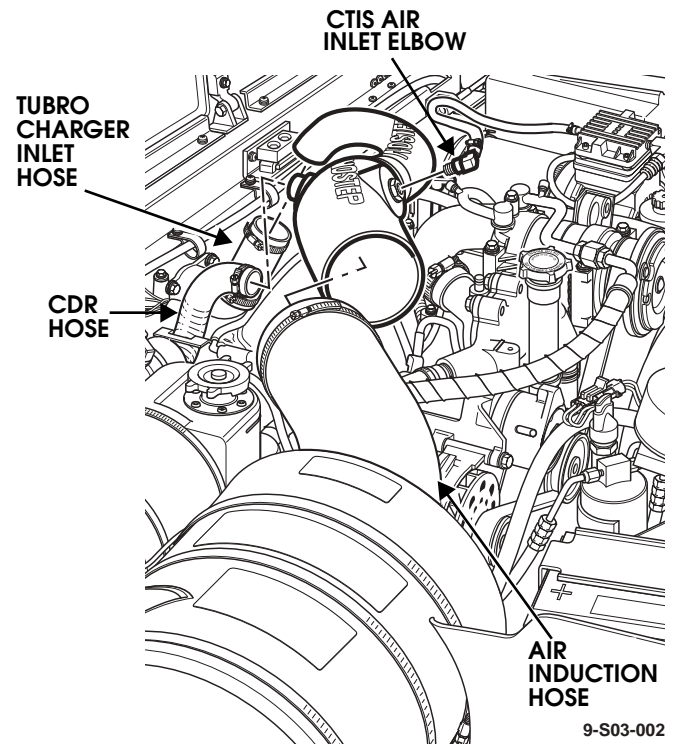

Figure 3-25: Air Horn Mounting
1. Loosen clamp and remove air induction hose from air horn (Figure 3-25).
1. Connect air induction hose to air horn (Figure 3-25).